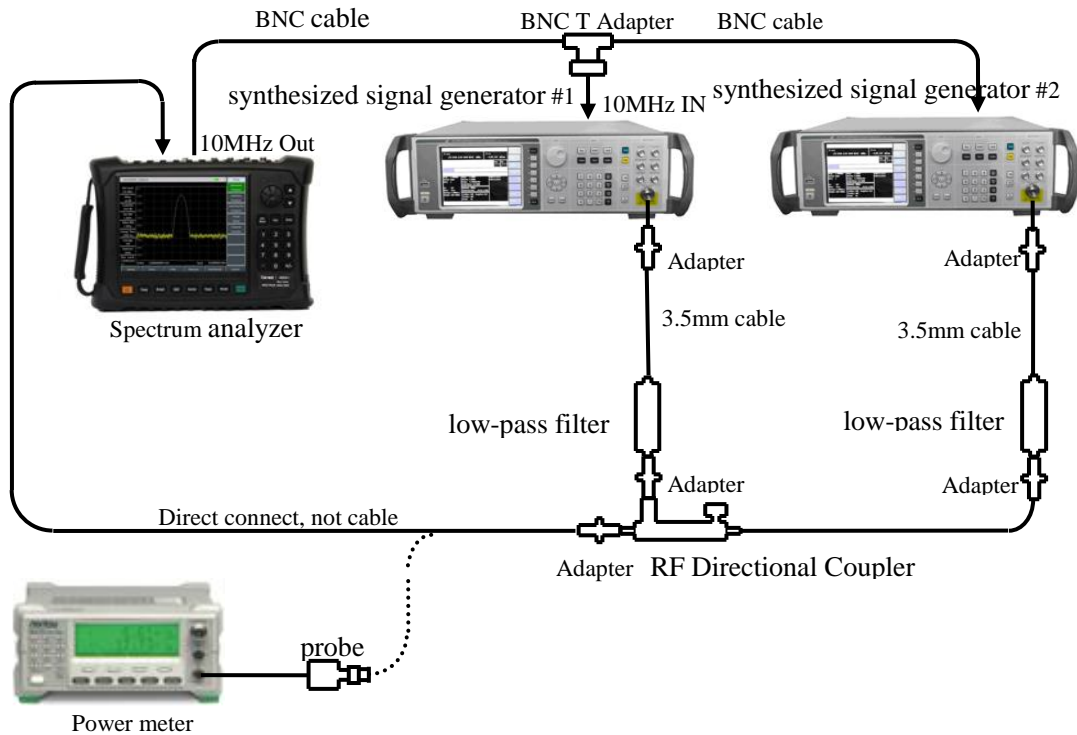

Fig.12-10 Setting for 3-order intermodulation distortion Test (50MHz~4GHz)
- 1) Connect the test instrument as shown in Fig. 12-10. Using RF Directional Coupler, do not connect the directional coupler to the spectrum analyzer.